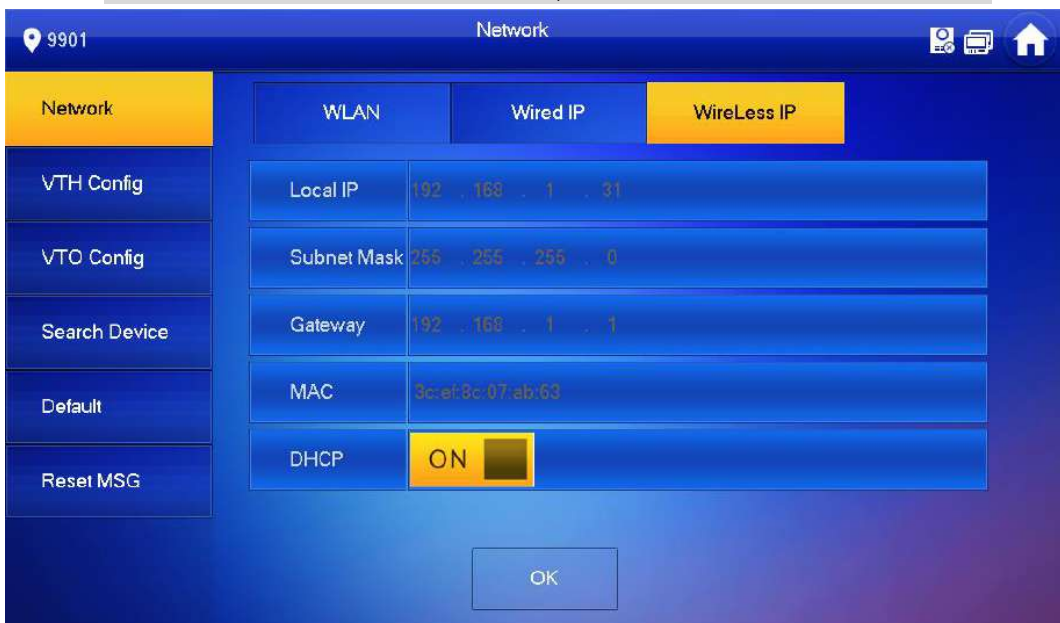

Figure 5-13
- ◇ At “WLAN” interface, select WIFI, click “Wireless IP” tab, press OFF to enable DHCP function and obtain IP info automatically, as shown in Figure 5-13.